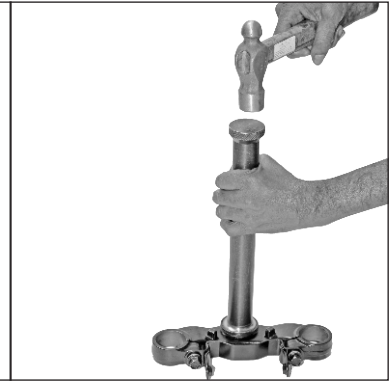

Fig. 1.13B
- Used to assemble the cone bottom to the steering stem. (Fig. 1.13B)